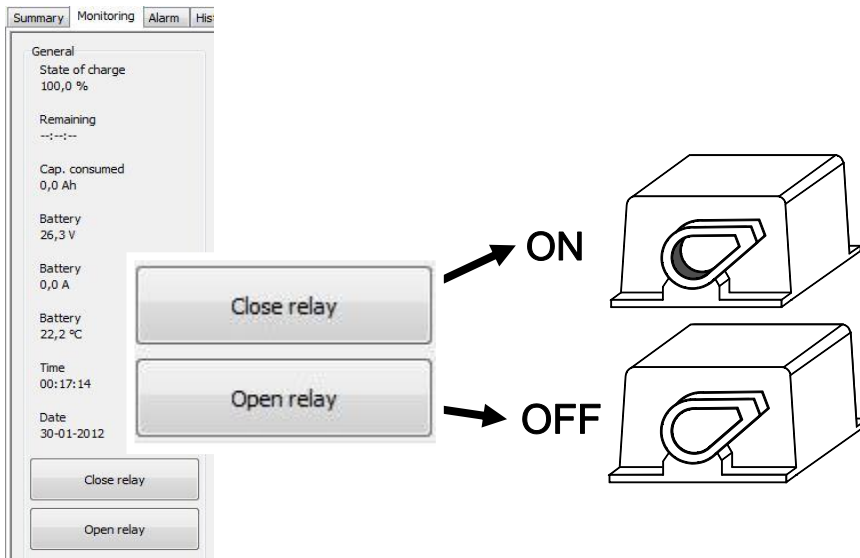

Figure 7-9: Buttons for closing and opening the relay
- 2 Enter on the MasterBus control panel the MasterBus MLi Ultra monitoring page. Operate the Close Relay button at the bottom of this page. If the relay is closed (On), the knob position must be shifted inwards. See figure 7-9.